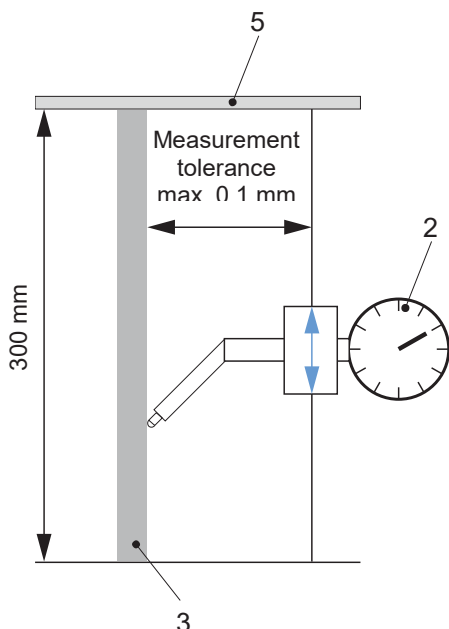

Fig. 1: Alignment piston rod
9.2 Installation (Figs. 1 and 2)
The piston rod support (Fig. 1 Item 5) and the piston rod (Fig. 1 Item 3) (customer-side) must be exactly aligned with one another. Max. Deviation to 0.3 m = 0.1 mm
3. Connect the hydraulic hose to the brake via thread m_1 (Fig. 1).
5. Turn the emergency release screws (7) back up to contact evenly and step-wise (tightening torque to contact, see Table in Chapter 5.2).